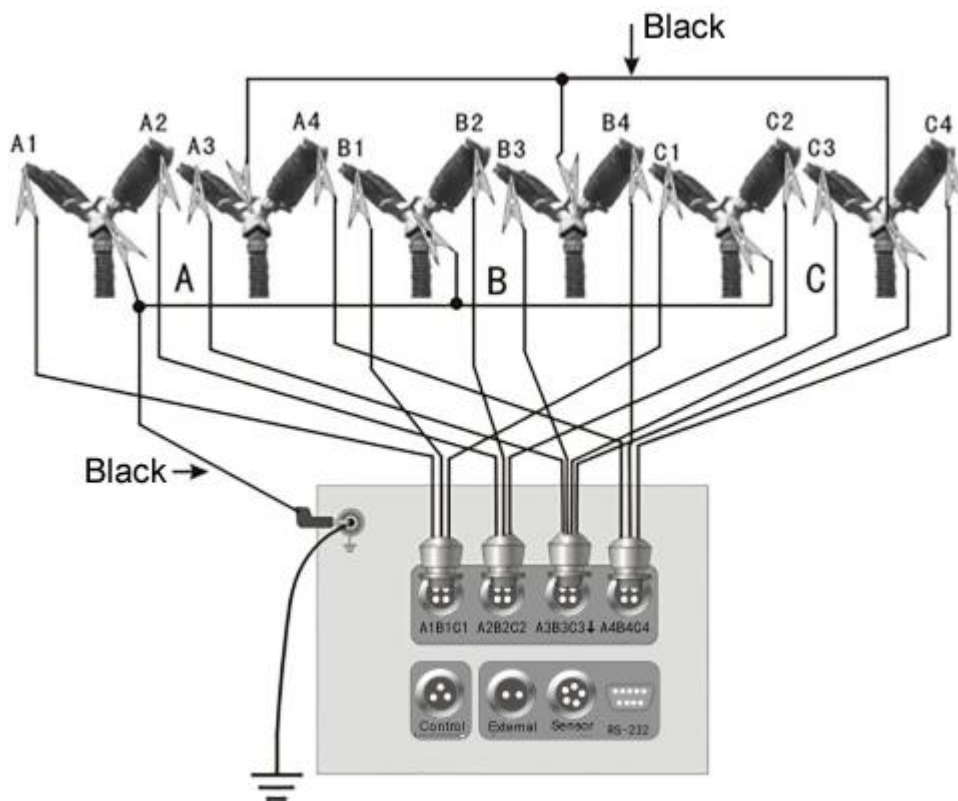

Figure 11. Twelve switches wiring
③ Double ended grounding switch: for double ended earthing switch, the instrument is equipped with a dedicated test line, as shown in Fig 11.